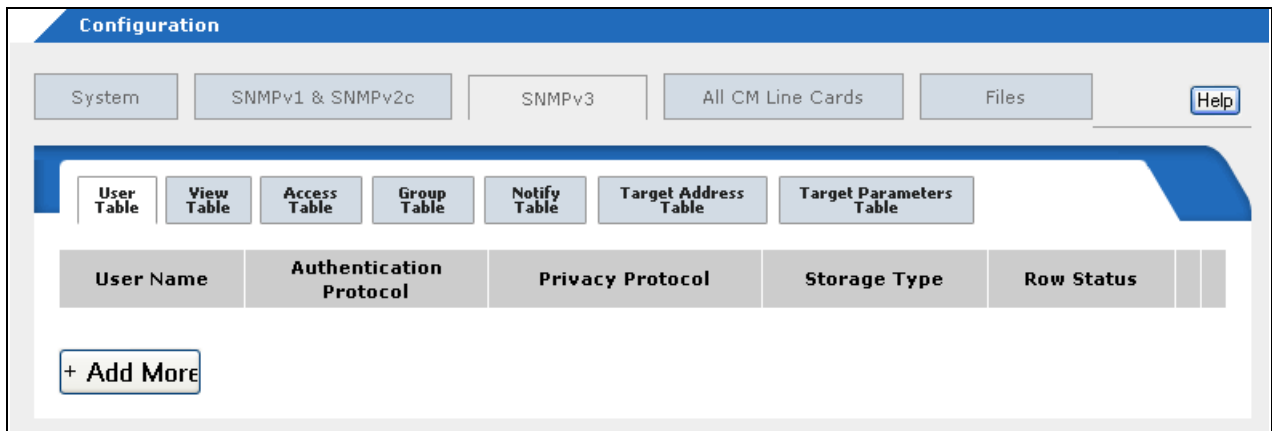

Figure 125. SNMPv3 User Table Tab
- :Click the **Configuration** button in the menu bar and then select the **SNMPv3** tab and the **User Table** tab. The SNMPv3 User Table tab is shown in Figure 125.